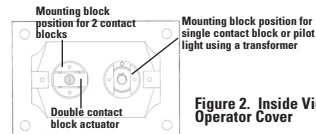
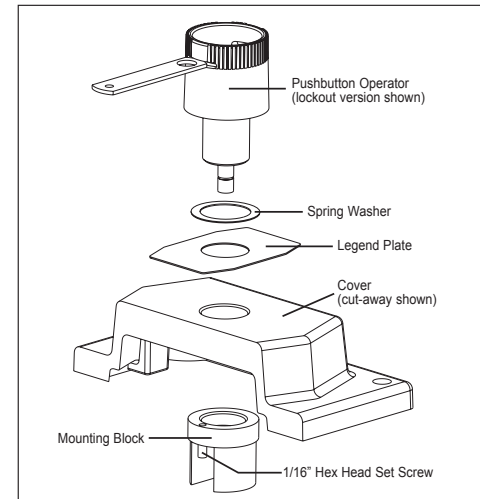
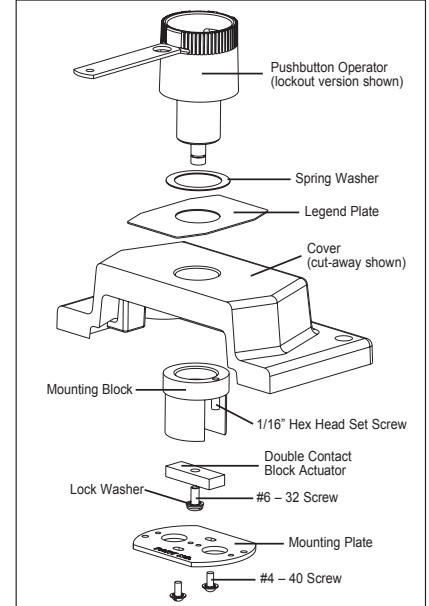

Figure 2. Inside View of Two Operator Cover
Figure 3. Assembly of Single Pushbutton Operator with One Contact Block
Figure 4. Assembly of Single Pushbutton Operator with Two Contact Blocks
- On the inside of the cover, fasten the mounting block to the threaded portion of the pushbutton assembly. Orient the mounting block as shown in Figure 2. This step will allow the contact block to be in the proper position. Tighten the set screw, thereby locking the pushbutton assembly to the cover (see Figure 3).
- Fasten the mounting block to the inside of the cover. Orient the mounting block so that the contact blocks will be in the desired position (see Figure 2). Tighten the set screw, thereby locking the pushbutton assembly to the cover (see Figure 4 on next page). Using the one (1) #6-32 x 5/16 pan head screw and lock washer, fasten the double contact block actuator to the plunger of the pushbutton operator assembly. Next, fasten the mounting plate to the mounting block using the two (2) #4-40 pan head screws provided.